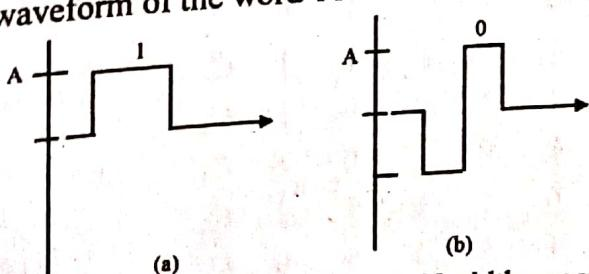

Fig: 1 (a) 1 as full width pulse, (b) as half width negative and half-width positive pulse
a) Coded mark inversion (CMI): It is a binary coded data format with two line bits for each associated binary digit. Its 1's are full-width pulses and follows the rules of AMI, whereas 0's are $\frac{1}{2}$ - width negative and $\frac{1}{2}$ - width positive as shown in Figs. 1 (a) and (b). Figure 2 shows the waveform of the word 1100101 in CMI coding.